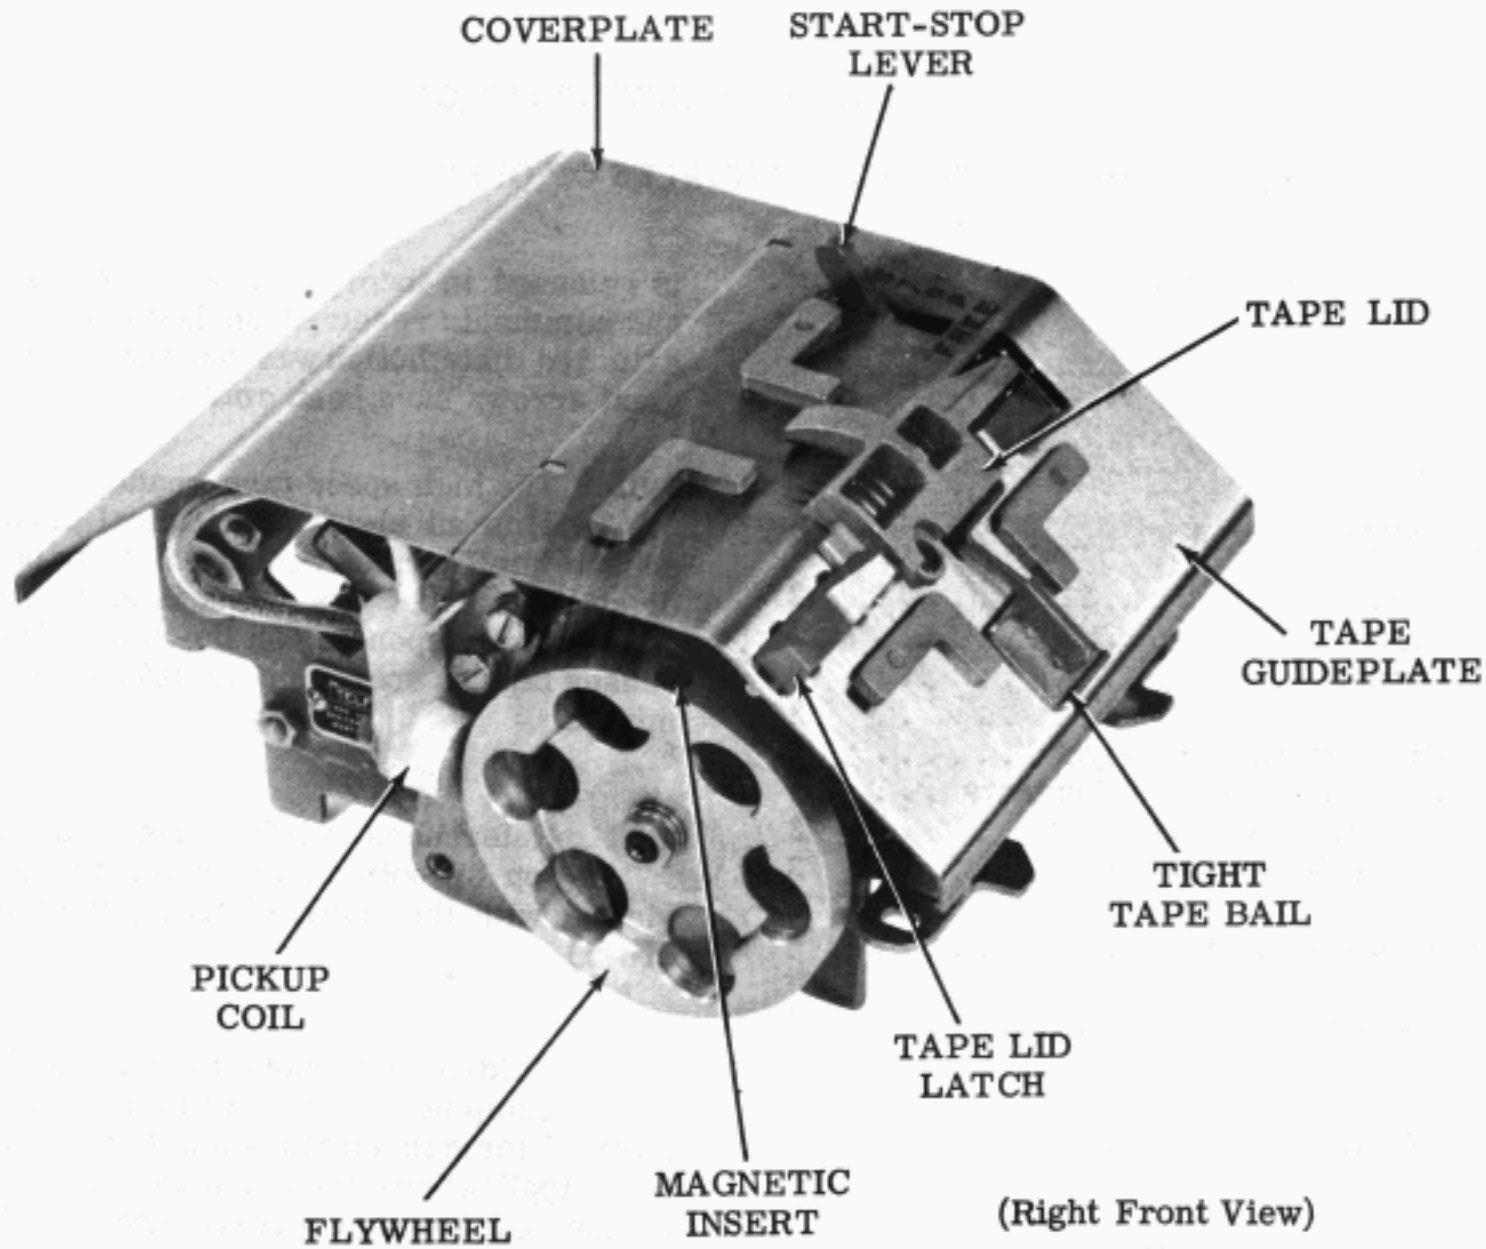

Figure 2 - High Speed Tape Reader Unit
2.01 The tape reader units (Figures 2, 3, 7, 8 and 15) are available in several different configurations to meet varying application requirements. Table A lists the important distinguishing features and operational characteristics of the type reader units.